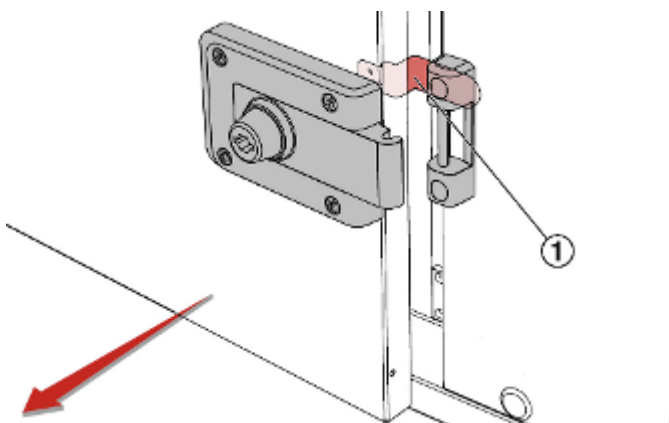

Fig. 55: Safety catch
3. ▶ Carefully open the inspection access door until it is caught by the safety catch ( Fig. 55 /1).